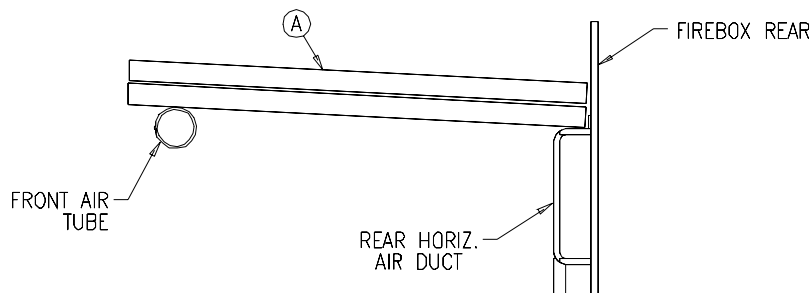

Figure 4.1
1. Install baffle boards (A) above the front secondary air tube and the rear horizontal air duct, one on top of the other with the 9.60” dimension across the front of the stove (see fig 4.1). These should then be pushed over to the extreme left or right side.
- Install the middle and rear secondary air tubes ensuring that air holes face forward. Install the cotter pins as in fig 4.1.